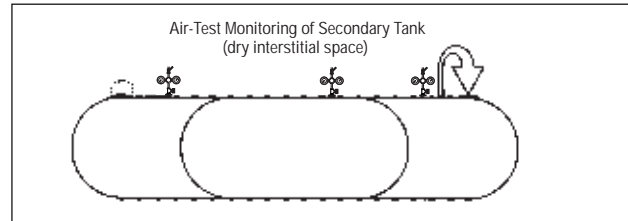

FIGURE 4-8
4.6.8. Use the quick-disconnect assembly to pressurize the interstitial space. (See SECTION 3.5. and FIGURE 4-8.)